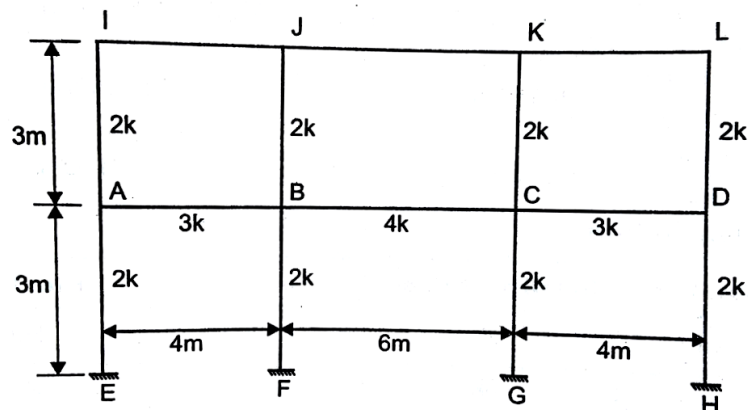

Figure 2.2
2. In a multistoried building, the frame shown in Figure 2.2 are spaced at 3.5 m intervals. Dead load from the slab is 3 KN/m^2 and the live load is 5 KN/m^2 . Analyse the beam BC for mid span negative bending moment. Self weight of the beams of 4 m span may be taken as 4 KN/m and that of 6m span may be taken as 5 KN/m . Use Substitute Frame method. The Stiffness of the members are indicated against each member